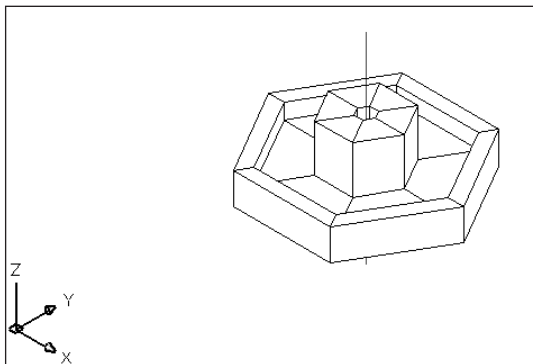

Figure 23-28: The revolved surface
11. Save your drawing. It should look like Figure 23-28.